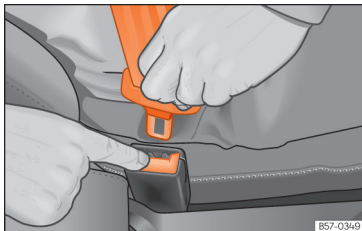

Fig. 11 Release the seat belt's buckle.
- Press the red button on the buckle »» Fig. 11. The latch plate is released from the buckle.